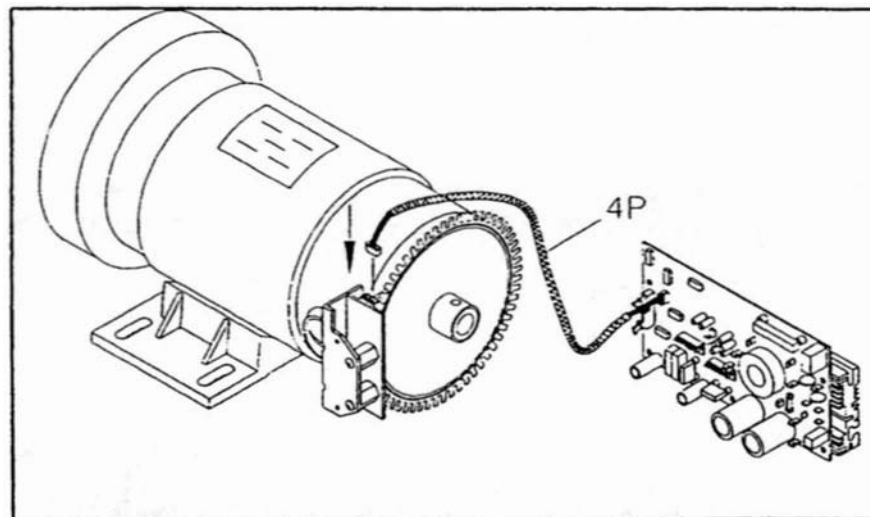

Fig.6
7. Connect 4 pin cable to the optical switch securely. (see Fig. 6)